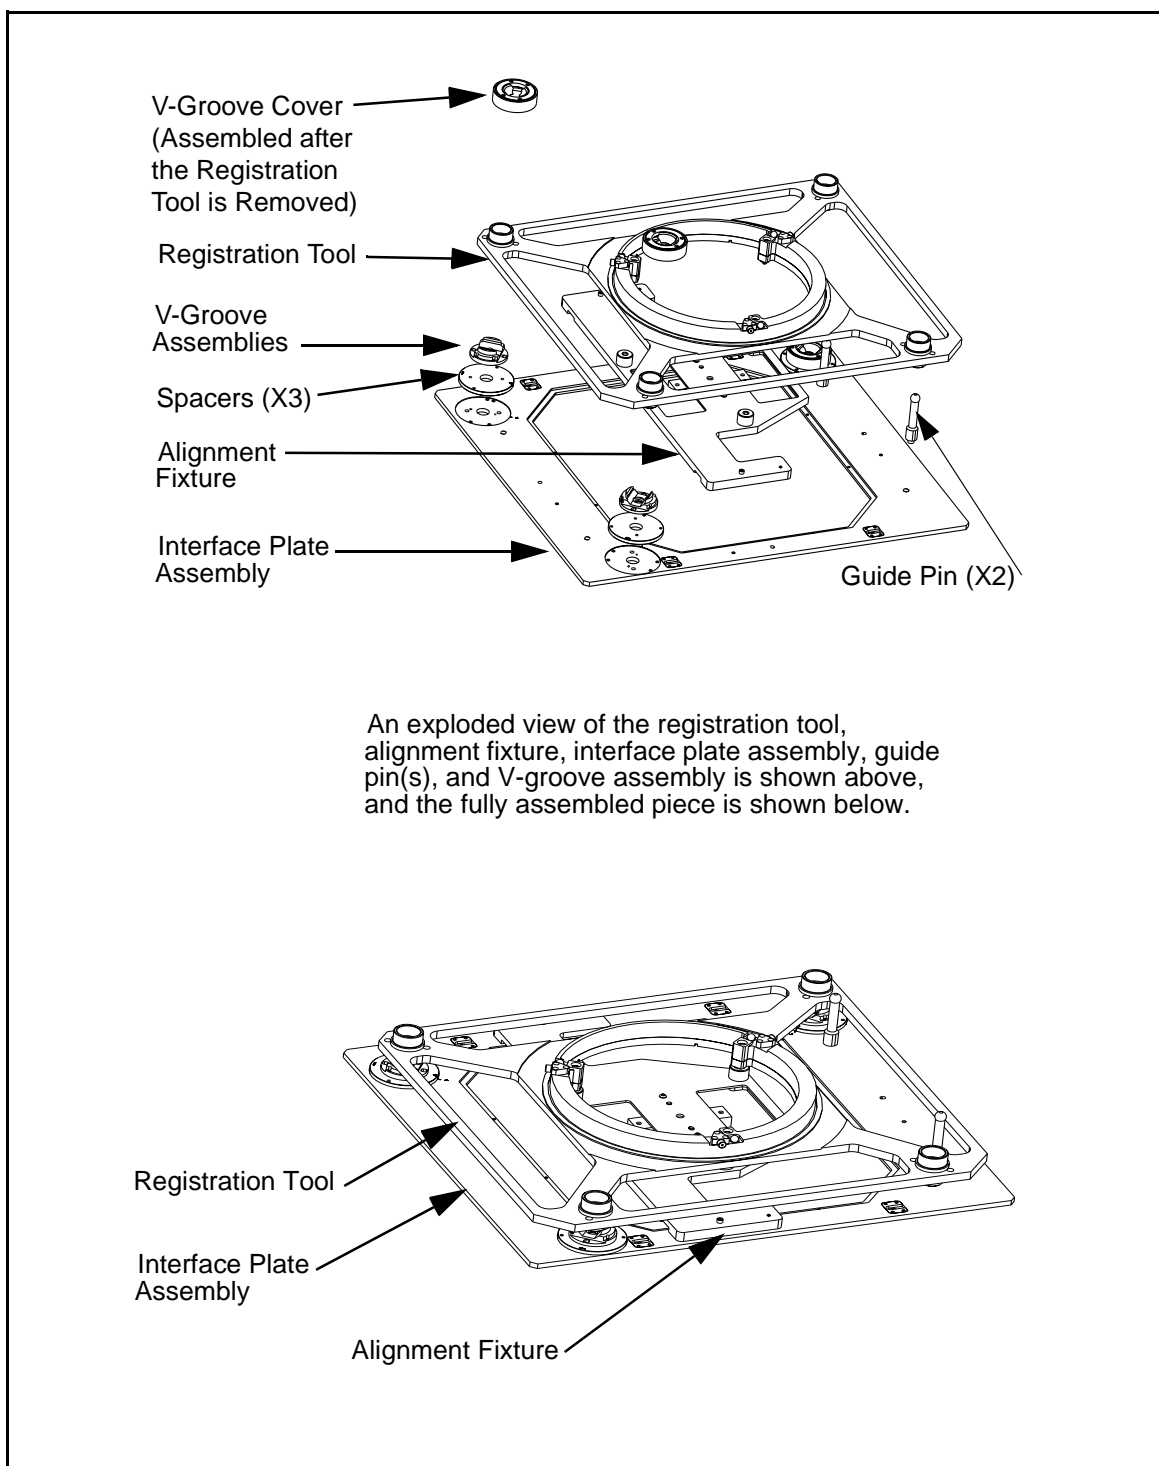

Figure 5 Registration Tool in Place on the Interface Plate Assembly
- 3) Attach the three native groove spacers (A, B, and C) (pn 480-227-75, 76, 77) to the interface plate assembly. Each spacer is marked with a letter that corresponds to a letter on the interface plate assembly. See Figure 5.
- 12) Orient the registration tool (pn 480-226-00) next to the interface. The side of the registration tool with the inner ring must face the installer and the side with the flats on the corner bushings must face the interface plate assembly. The long and thin cut-out window can be used as a reference in positioning the registration tool in the proper orientation. Position the registration tool so that its pins engage the bushings in the alignment fixture and the alignment blocks at the corners engage the flats of the V-grooves. See Figure 5.